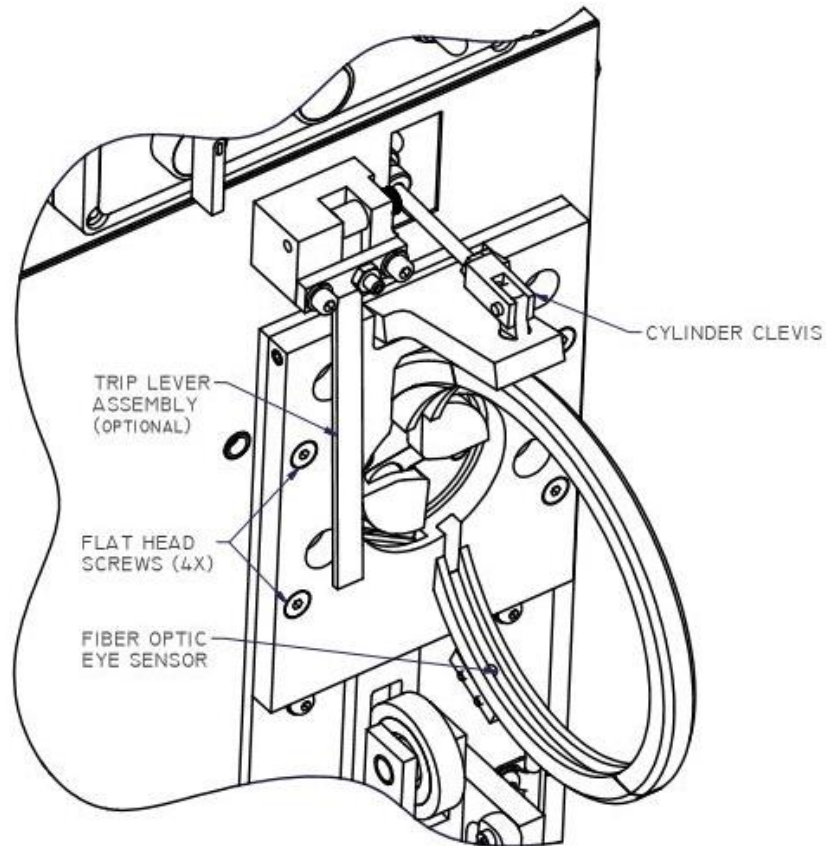

Figure 2.2.1 Ring Mounting Screws and Clevis
1. The ring is mounted to the machine with four flat head screws. The ring cylinder is also fastened to the top portion of the ring with the clevis shown in Figure 2.2.1 below. To attach the clevis, remove one of the retaining clips and place the clevis pin through the ring mount and clevis then reattach the retaining ring.